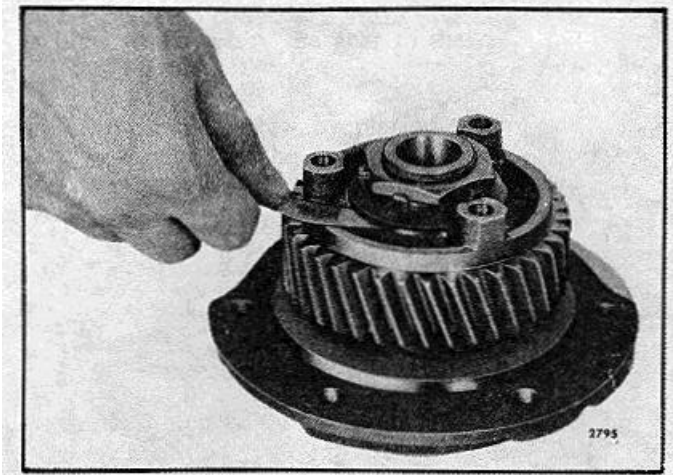

FIG. 3 - Checking Clearance Between Blower Drive Gear Support Thrust Washer and Blower Drive Gear Thrust Bearing
7. Check the clearance between the blower drive gear thrust washer and thrust bearing as shown in Fig. 3. This clearance is .005", to .010" with new parts and must not exceed .012" with used parts.